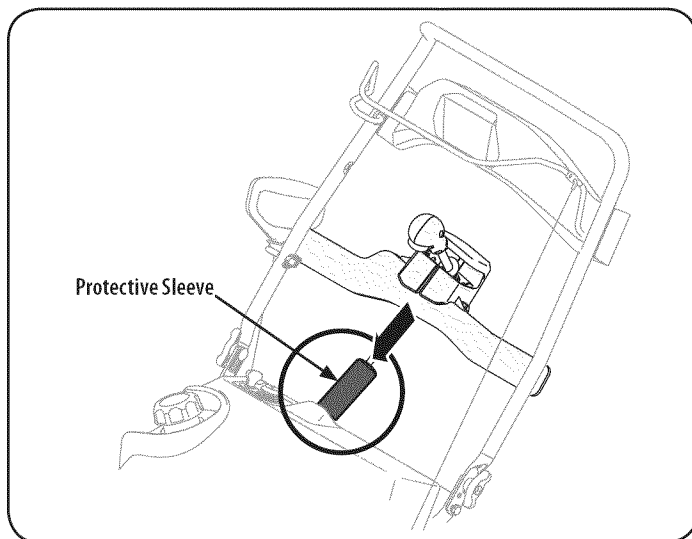

Figure 9
6. Slide the protective sleeve over the universal joint. See Figure 9.